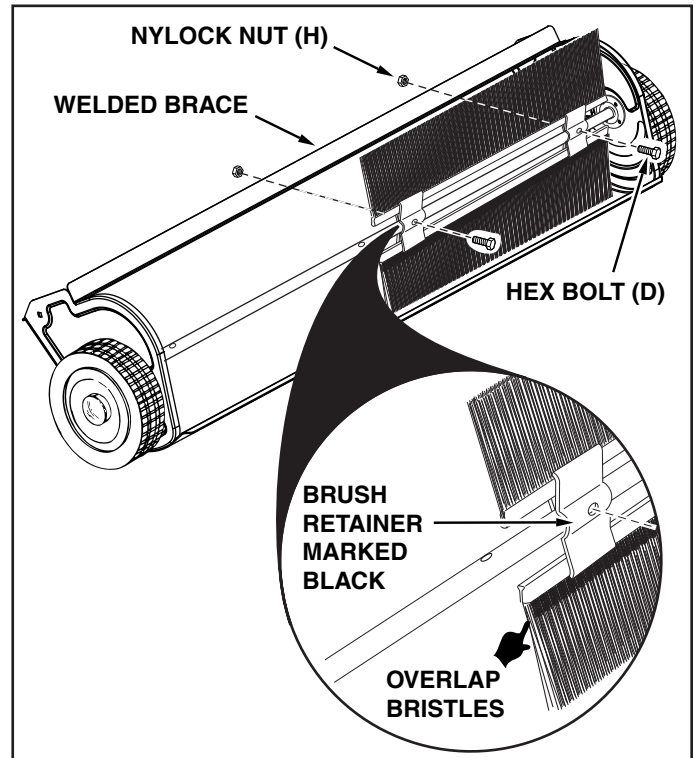

FIGURE 2
IMPORTANT: The overlap bristles at the bottom of each brush help support the back side of the brush for better sweeper performance. Be sure the sweeper is turned as shown in figure 2 to correctly assemble the brushes.
- Attach the brush assembly with the black brush retainer to the right end of the brush shaft using two hex bolts (D) and nylock nuts (H). The brush retainer marked with black ink must be placed to the **middle** of the sweeper. See figure 2.